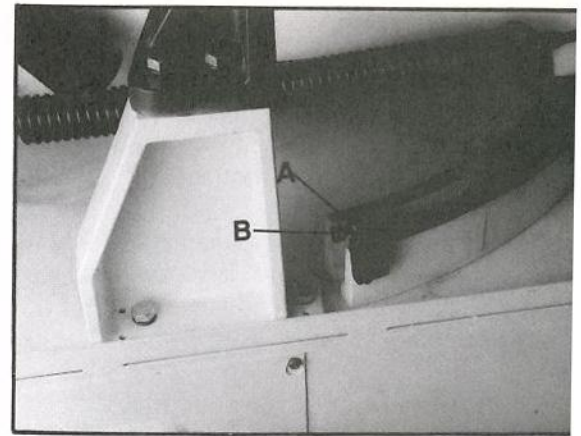

Fig. 14
5. Loosen the lock nut (A, Fig. 14 ).
6. Adjust the hex cap screw (B, Fig. 14 ) until the blade is at a 90° angle to the fixed vise jaw.
7. Tighten the lock nut (A, Fig. 14 )